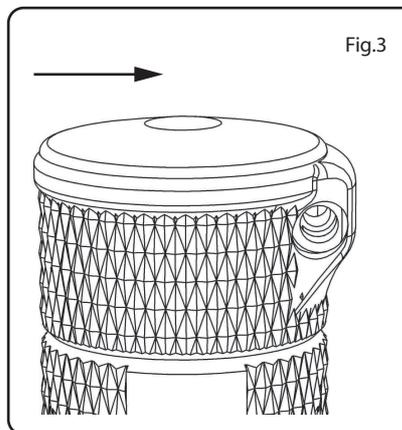
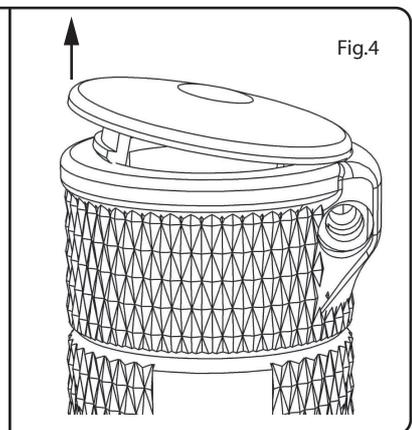

Fig.3
Fig.4
3. Remove the end cap by pushing it sideways towards the boss (as shown in Fig.3), then pull it up on the same side (Fig.4). This will then allow you to remove the cap.
2. Place one of the locking tabs into the grip (on the boss side as shown in Fig.4) ensuring it locates into the groove and push the other side down ensuring you do not trap the rubber (you should here it snap into position).